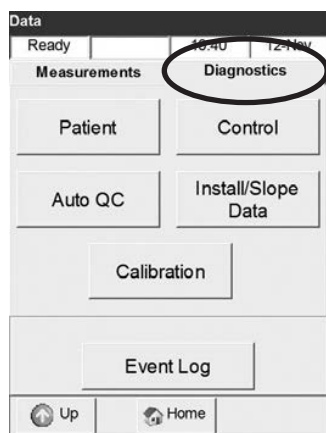

Fig. 7-38 Data Manager
From the **<Ready>** display, press **<Data Manager>** to access the **<Data>** screen (Fig. 7-38).
- To print a patient diagnostics report, select **<Diagnostics -> Patient>** in the **<Data>** screen (Fig. 7-38).